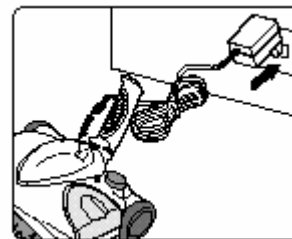

Fig. 9
1. Connect the charger plug to the charging jack or hole on the back of the sweeper. Plug the the charging adapter into the wall outlet. (120V.,60Hz.) Use only TechWorld Charger AD-0920-UL, rated output DC 9V,200mA. (Fig. 9)